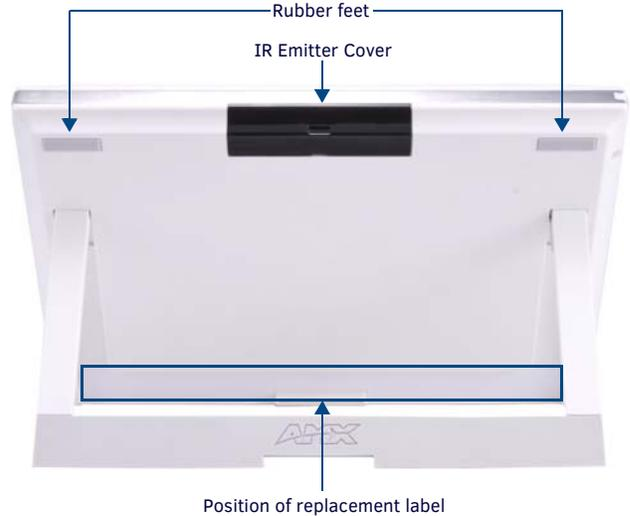

FIG. 5 REAR OF THE MVP-9000I-WH
- Insert the seven screws and replace the rubber feet atop the two upper screws, using the replacement rubber feet included in the Battery Pack Kit. Replace the bottom label over the three bottom screws, using the replacement label included in the Battery Pack Kit (FIG. 5).